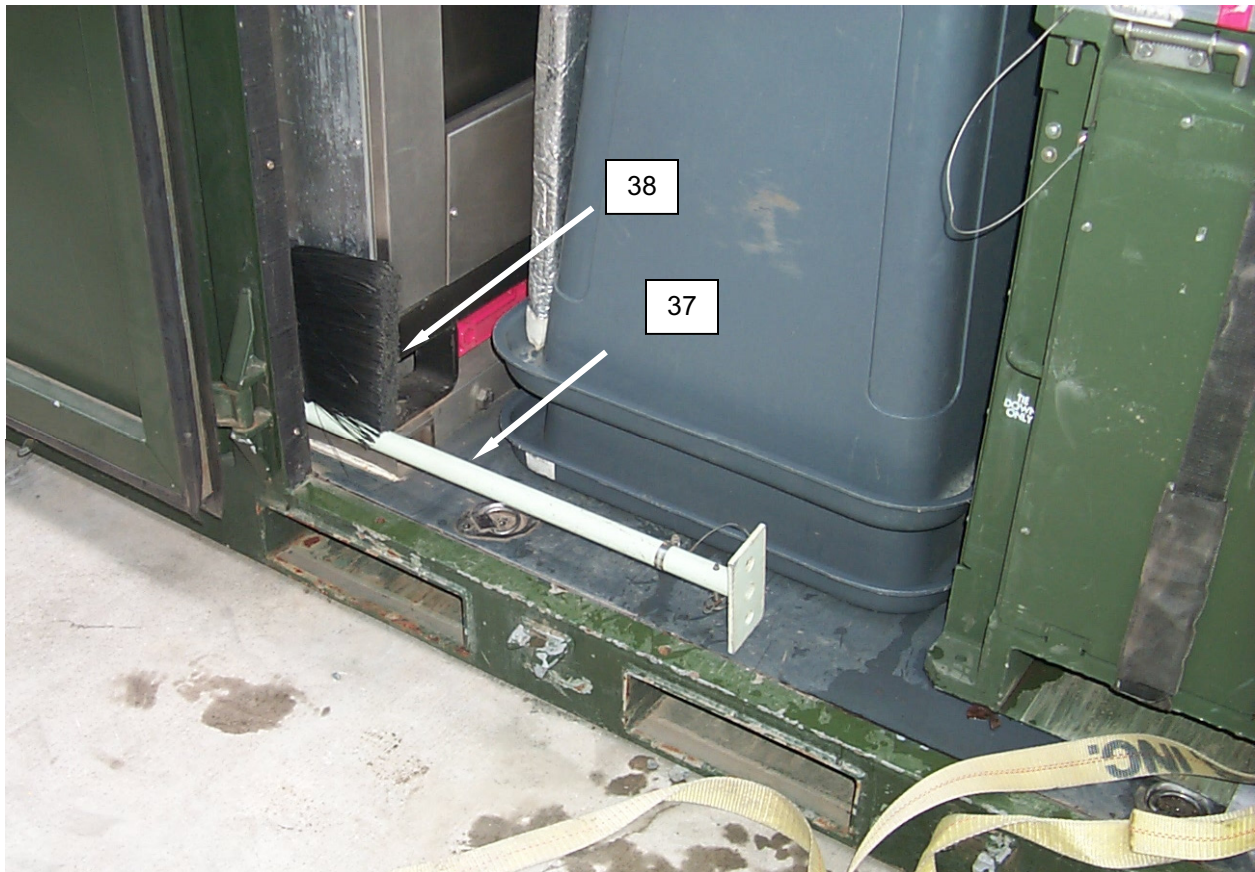

Figure 31. CBL Full Packout.
53. Place the TEMPER distribution box stand (**Figure 31, Item 37**) and the broom (**Figure 31, Item 38**) in the space between the washer and the container wall.